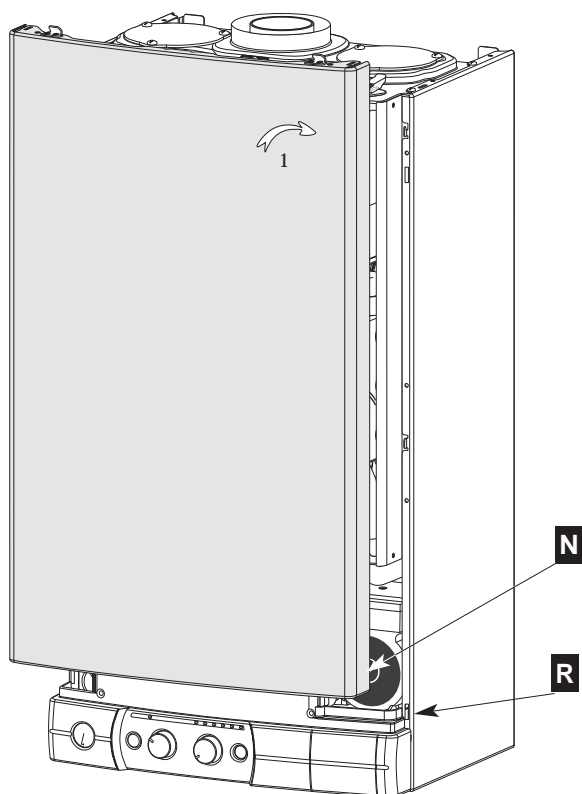

Fig. 34
- offer the casing up (Fig. 34)